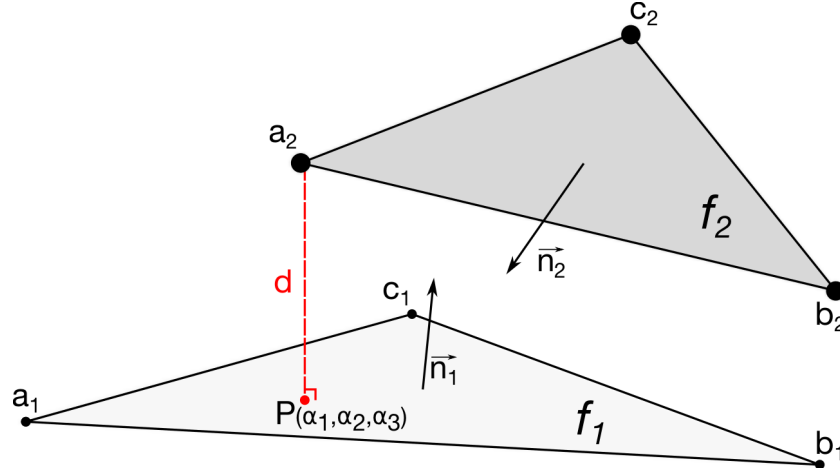

Figure 0-1. Contact detection conditions between two faces.
In these remarks we will discuss the conditions for contact detection. For reference, Figure 0-1 illustrates which geometric values help determine contact. In this figure and discussion, f_1 is a face of the reference surface, and f_2 is a face of the tracked surface. Contact is detected when *all of the following three condition are satisfied*:
Here \mathbf{n}_1 and \mathbf{n}_2 are the normal vectors of faces f_1 and f_2 , respectively, and ε_1 is an input parameter. See Figure 0-1.
$(\alpha_1, \alpha_2, \alpha_3)$ are the local coordinates of point P (see Figure 0-1). P is the projection of point a_2 on face f_1 . ε_2 is an input parameter.
3. Contact condition 3 depends on the contact type. For either possible condition, let d be the distance between P and a_2 (see Figure 0-1).